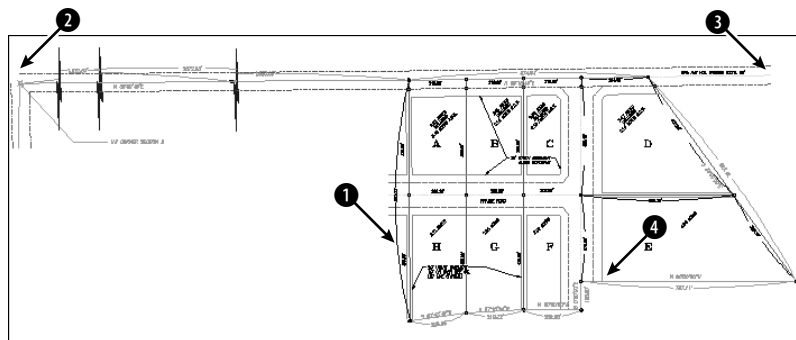

Figure 12-5: A civil engineering drawing of several plots of land.
1. Open **ab12-a.dwg** from the CD-ROM if it isn't already open from the previous exercise. This is a civil engineering drawing showing several plots of land, as shown in Figure 12-5. OSNAP should be on. Set a running object snap for the endpoint.
2. Choose Tools ⇨ Inquiry ⇨ List. At the `Select objects:` prompt, pick ❶ in Figure 12-5. Press Enter to end object selection. The result is shown in Figure 12-6. Note the surveyor's units.
3. Choose Tools ⇨ Inquiry ⇨ Distance. At the `Specify first point:` prompt, choose the endpoint at ❷ in Figure 12-5, using the endpoint running object snap. At the `Specify second point:` prompt, choose the endpoint at ❸. Here's the result:
4. Choose Tools ⇨ Inquiry ⇨ ID Point. At the `Specify point:` prompt, pick the endpoint at ❹ in Figure 12-5. Here is the result: